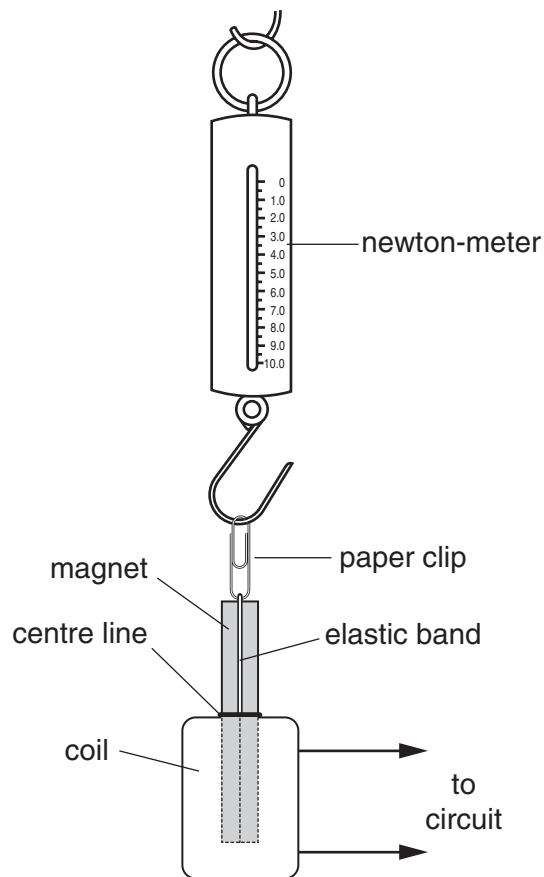

Fig. 1.3
- 2 Candidates will set up the apparatus as shown in Fig. 1.3.